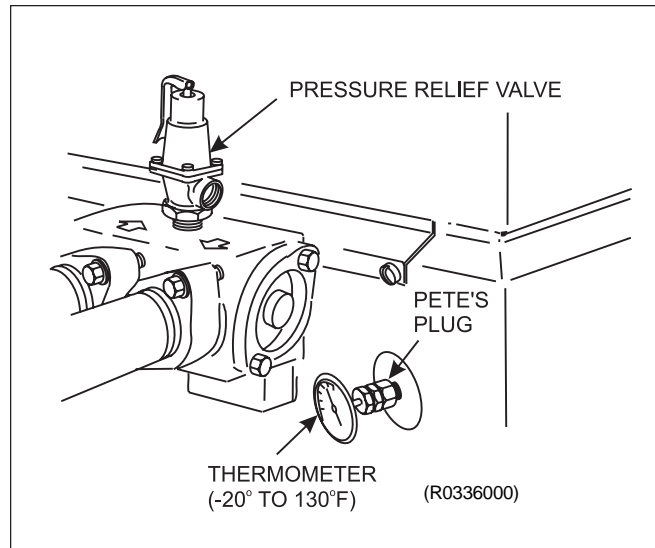

Figure 14. Thermometer and pressure relief valve.
1. Remove the 3/4 inch (19 mm) brass plug located on the top of the inlet/outlet header (see Figure 14).